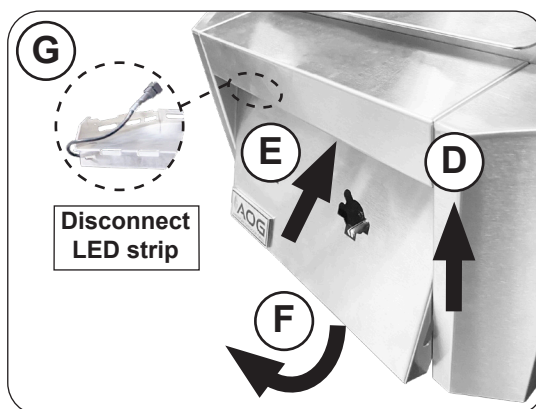

Fig. 37-3 Remove face panel
5. Using both hands, grip the front face panel, carefully lift upward (Fig. 37-3, D), angle the top portion inward to unhook it (Fig. 37-3, E), then slide down and outward to remove (Fig. 37-3, F). If equipped, LED light strip must be disconnected to free the face panel completely (Fig. 37-4, G).